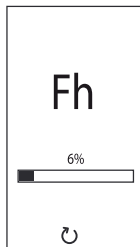

fig. 9 - Vent with fan off
- In the next 280 seconds, the venting cycle continues with the fan off (fig. 9 - Vent with fan off).